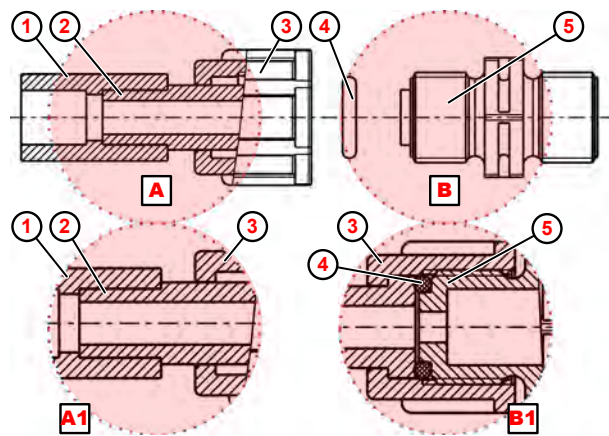

Fig. 10: Pipe connection with weld-on joint
1. ➤ Weld the weld-on concentration (Fig. 10 , ①) to the hose connection.
2. ➤ Place the o-ring ④ in the groove of the suction or pressure valve ⑤ .
3. ➤ Tighten the ③ union nuts (for details, **B1**).